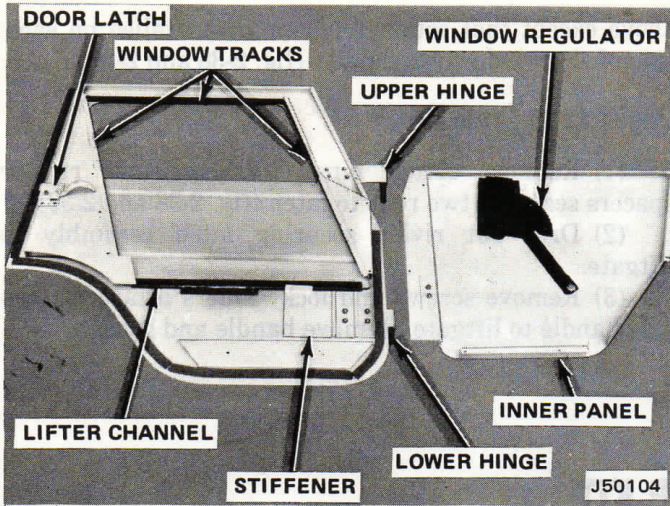

Fig. 2-37 Cab Door with Inner Panel Removed
(1) Drill out rivets securing inner panel to door (fig. 2-37).
(2) Slide panel forward to disengage window regulator arm from lifter channel and remove panel.